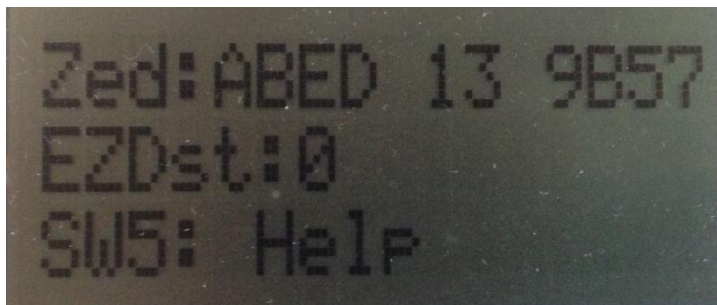

Figure 29: Initiator pairing with the Target
- To pair the devices using EZ-Mode, press SW2 on both devices; after which, EZMODE will display on the 2nd line of the LCD screen. If pairing is successful, the 2nd line will display: “EZMODE: SUCCESS”. If the device is the EZ-Mode “initiator”, the “target” device’s information will be displayed on the initiator’s 2nd line. LED1 will blink throughout this process until EZ-Mode pairing has finished. Refer to **Figure 29**. EZMODE device’s information or status will disappear after few seconds.
EZ-Mode pairing has finished. Refer to **Figure 29**. EZMODE device's information or status will disappear after few seconds.